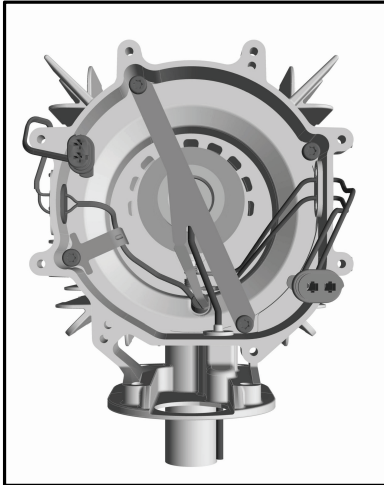

Figure 33: Top view of heat exchanger
2. Fit new spring clip (2) with 2 screws (1).
3. Guide connector of exhaust temperature sensor (10) through hole in heat exchanger (6) and press cable grommet on exhaust temperature sensor connection cable from inside into heat exchanger (6) (see Figure 33).